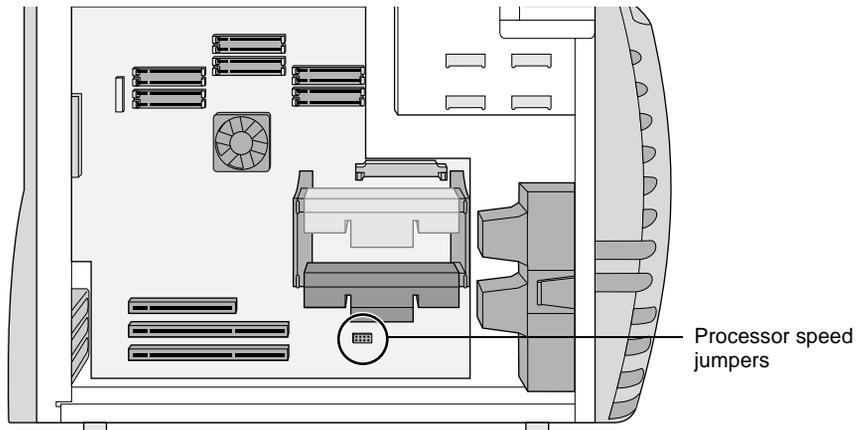

Figure 6-7 Processor Speed Jumpers
11. Move the processor speed jumpers to the appropriate positions for the processor or processors you are installing. Table 6-2 shows the processor speed jumper positions. Figure 6-7 shows the location of the processor speed jumpers on the system board.
- Make sure the processor speed jumpers are set correctly (see Figure 6-7).